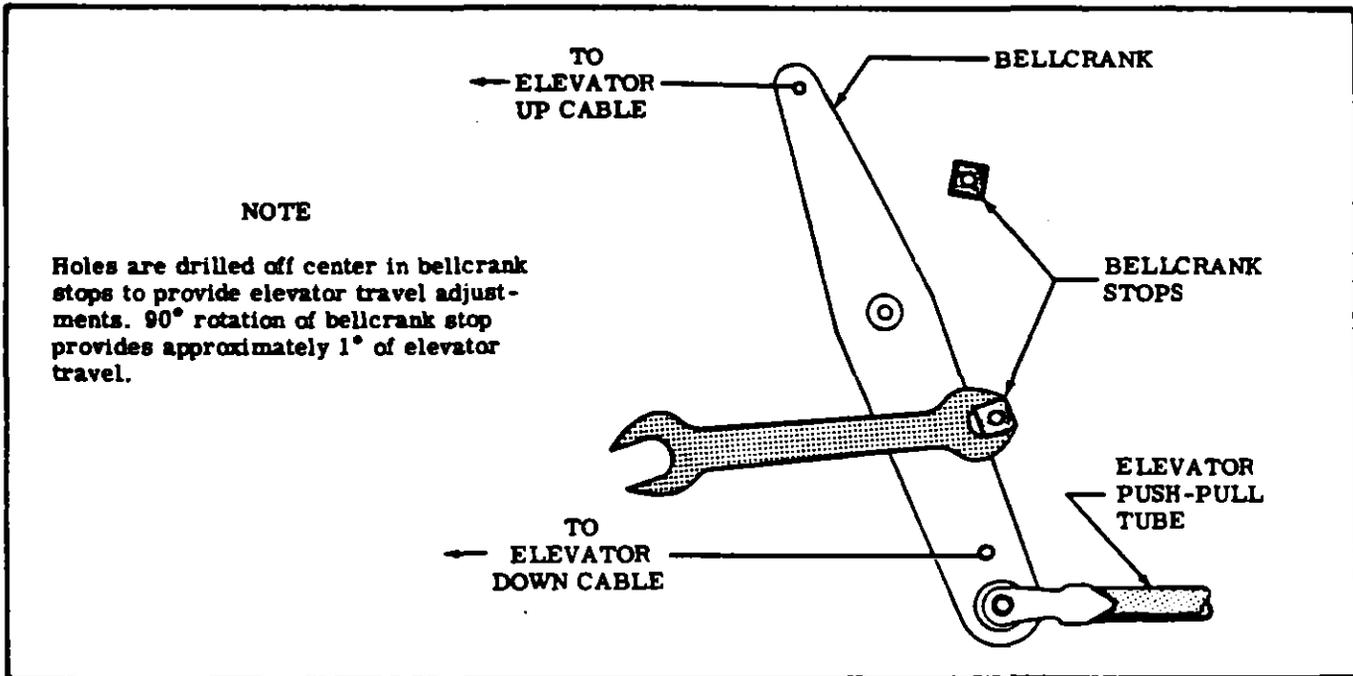

Figure 8-3. Elevator Bellcrank Travel Stop Adjustment
- b. Remove safety wire and relieve cable tension at turnbuckles (10).
- c. Disconnect cables at control column arm assemblies (3).
- d. Disconnect cables at bellcrank links (index 16, figure 8-3).